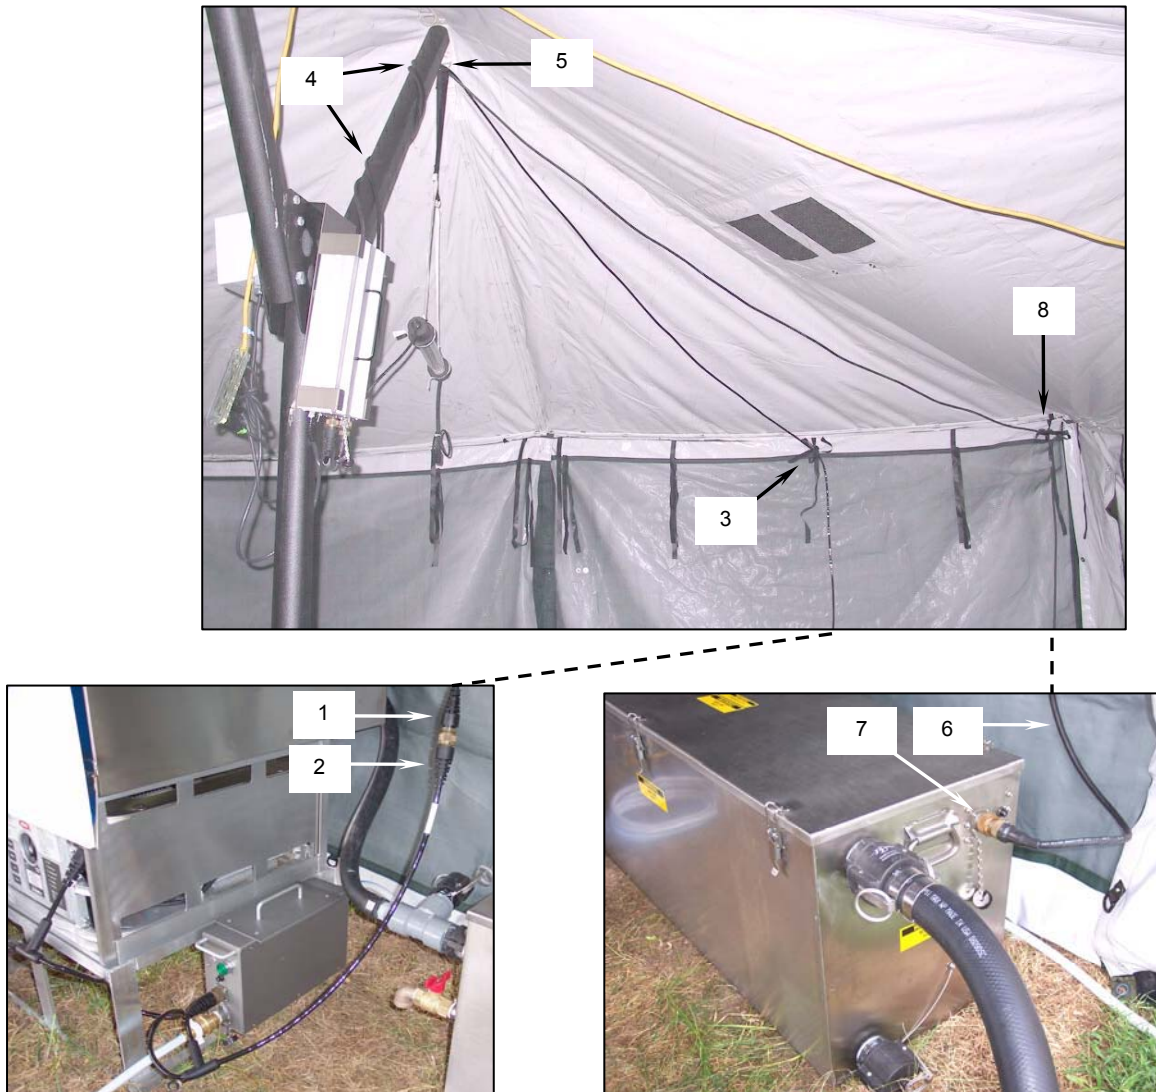

Figure 34. DC Power Cable Removal.
- c. Disconnect the 25-ft DC power cable (**Figure 34, Item 1**) from the end of the MBU power cable (**Figure 34, Item 2**).
- d. Remove the 25-ft DC power cable from the tent by untying the cable from the tent strap (**Figure 34, Item 3**), unwrapping the cable from the “Y” arm of the tent center pole (**Figure 34, Item 4**), and sliding the cable out of the D-ring (**Figure 34, Item 5**) at the top of the tent.
- e. If not already done, disconnect the grease separator power cable (**Figure 34, Item 6**) from the grease separator electrical connector (**Figure 34, Item 7**). Cap the grease separator connector.
- f. Remove the grease separator power cable from the tent by untying the cable from the tent strap (**Figure 34, Item 8**), unwrapping the cable from the “Y” arm of the tent center pole (**Figure 34, Item 4**), and sliding the cable out of the D-ring (**Figure 34, Item 5**) at the top of the tent.